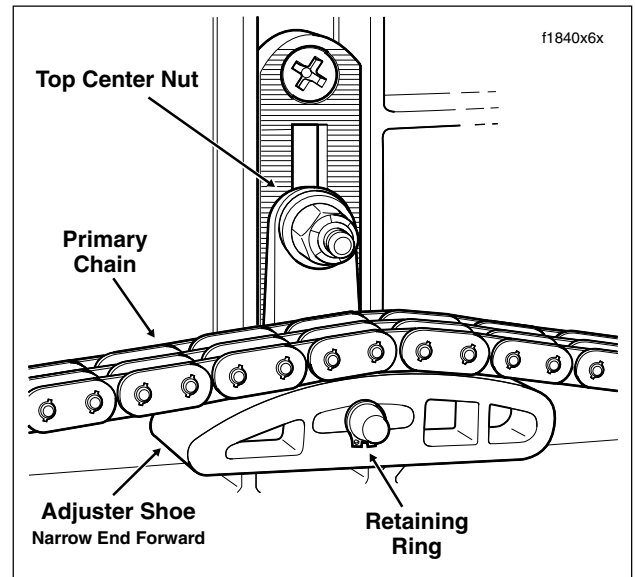

Figure 6-2. Chain Tensioner Assembly
- a. Locate the chain tensioner assembly and loosen the top center nut a maximum of two turns. See Figure 6-2.
| 2. Loosen top center nut from captured bolt of chain tensioner assembly. See Figure 6-2 . | 3. Lower the chain tensioner assembly until the adjuster shoe just contacts the inner primary housing. |